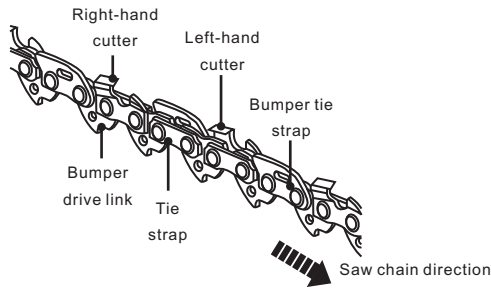

Fig. 26a
2. The height difference between the tooth and the ridge is the cutting depth. When sharpening the saw chain (D6) you have to consider the following points. (See Fig. 26a)